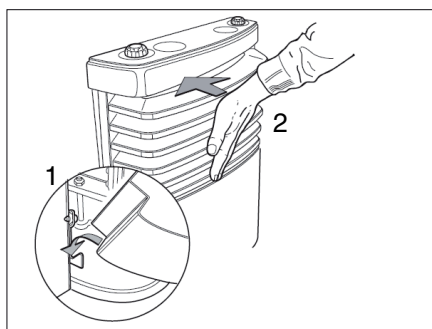

Fig. 111 Mounting the heater cover
- Mount the heater cover. To do so, insert the cover into the lower bracket (Bild 111,1).
- Swivel the cover in until the catch levers engage audibly (Bild 111,2).